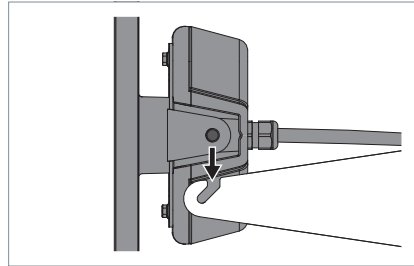

Fig. 11: Hanging the luminaire into the holder.
- ▶ Hang the luminaire into the holder, see Fig. 11.